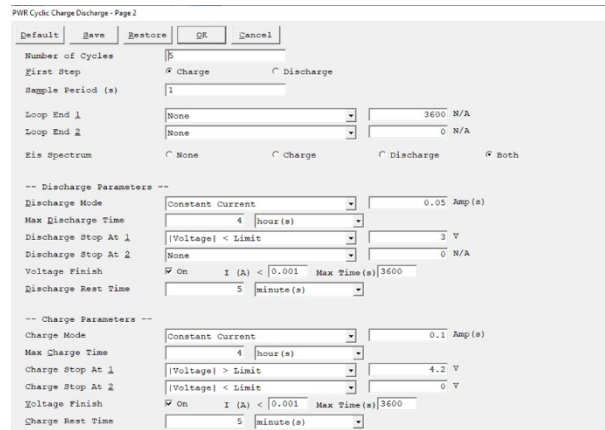

Figure 4- Page 2 of the CCD setup screens. If EIS is not selected, this is the final screen
- 5. After clicking "OK" on the Cable Check, Page 2 of the setup screen will appear. See figure 4